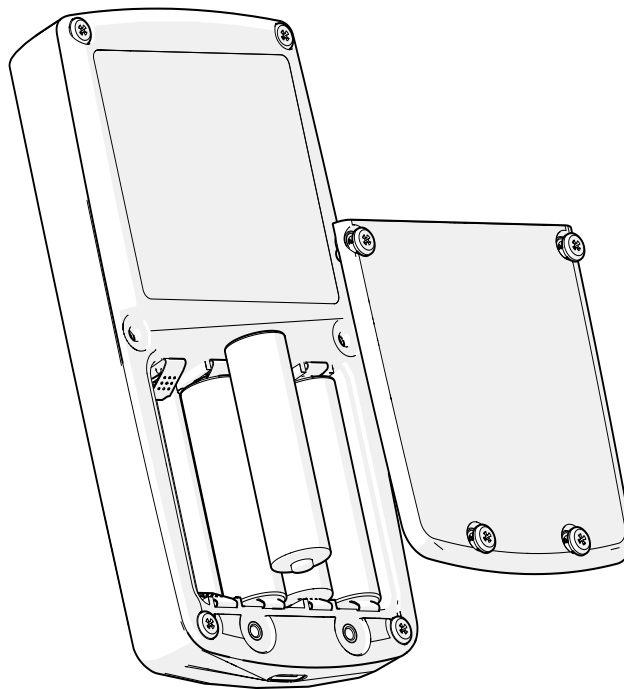

Figure 6-1: Installing the Batteries
1. Use a Pozidriv screwdriver to unscrew the captive screws that secure the battery compartment cover. See Figure 6-1.